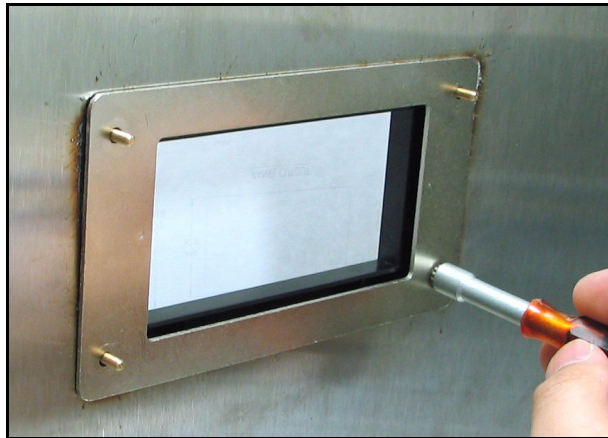
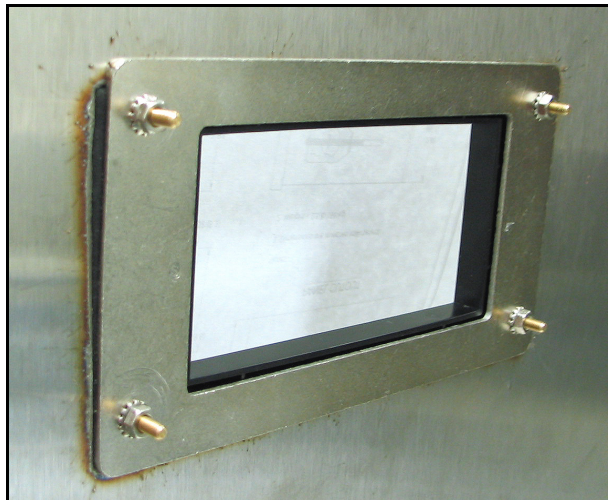

Figure 19: Securing the Assembly to the Panel
Figure 20: Plate Assembly Mounting Complete
4. Apply nuts to the four screws and secure the assembly to the panel (see Figure 19 and Figure 20). Use a feeler gauge behind the gasket, check the compression, and tighten the nuts until the gap is $0.032" \pm 0.002"$.